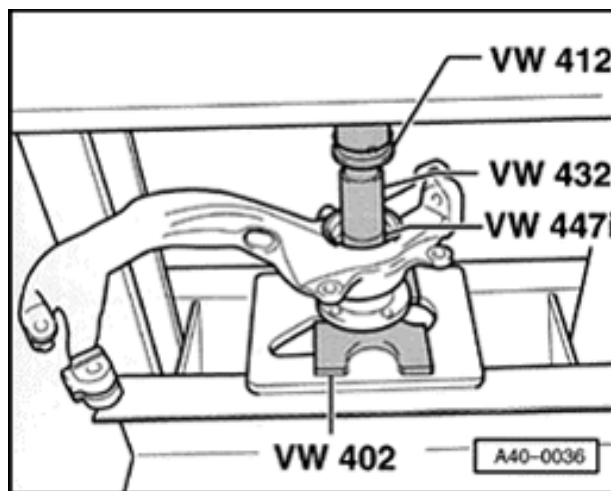

Fig. 10 Pressing wheel hub into wheel bearing with 82 mm diameter
- ◆ Pressing in 82 mm dia. ⇒ Fig. 10